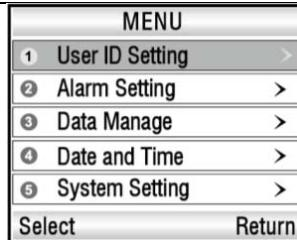

Fig.4-1
- 1) Press the power switch for 3 seconds to power on the oximeter and then press the menu button to enter the main menu, refer to Fig.4-1.